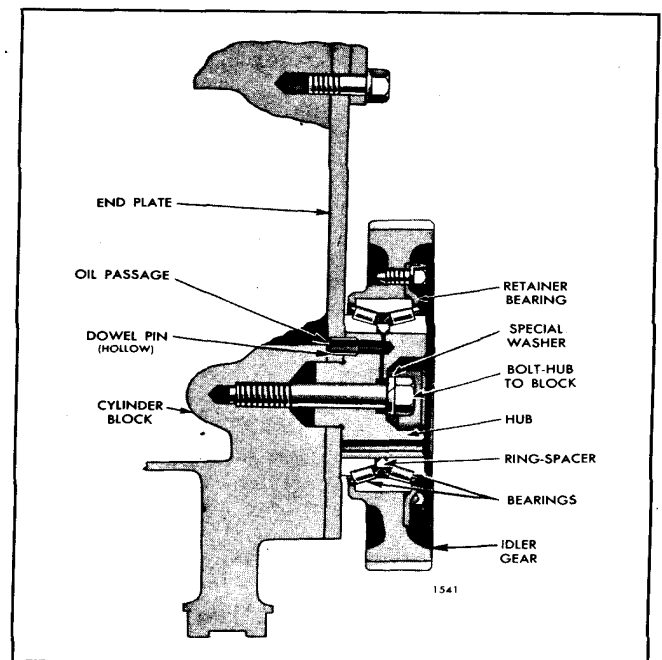

Fig. 1 - Idler Gear Mounting
1. Remove the hub to cylinder block bolt and washer (Fig. 1) and withdraw the assembly from the cylinder block rear end plate.
2. Remove the idler gear hole spacer (23), Fig. 1 of Section 1.7.2, in the same manner if the engine is being completely reconditioned.
Refer to Fig. 1 and disassemble the bearing as follows: